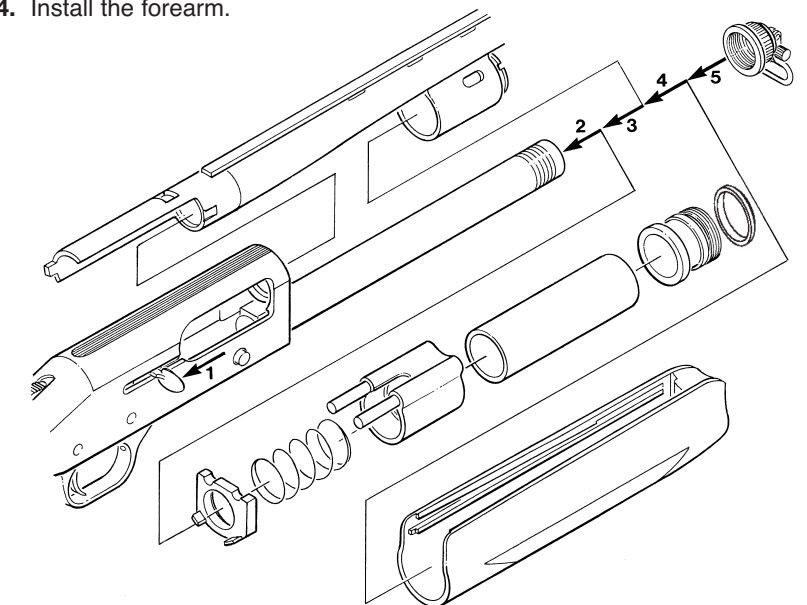

Figure 4
1. Grasp the operating handle and lock the action in the “OPEN” position (Figure 4).
-  When interchanging barrels (combo models) or reinstalling the original barrel onto the firearm, YOU MUST ensure that the gas piston and seal ring* are present on the magazine tube prior to installing the barrel (see Figure 4). If the gas piston and seal ring* are not present on the magazine tube, remove them from the gas cylinder portion of the barrel that was on the firearm previously and place them onto the magazine tube as shown in Figure 4. Failure to do so may result in a dangerous malfunction, damage to the firearm and injury to the shooter and other persons. The firearm's owner must accept full responsibility for the correct reassembly and functioning of the firearm after any disassembly or replacement of parts.